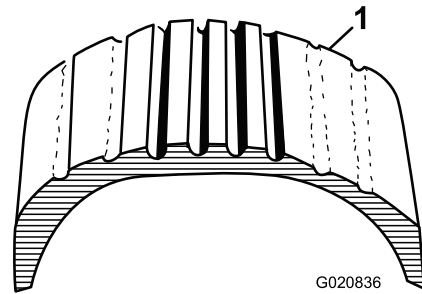
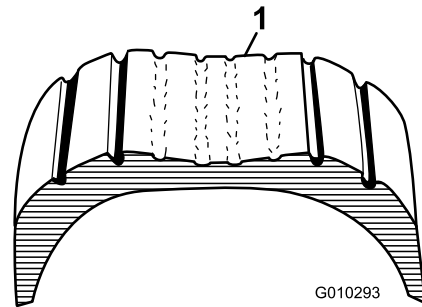

Figure 17
Figure 18
1. Visually inspect the tires for damage and wear (Figure 17 and Figure 18)